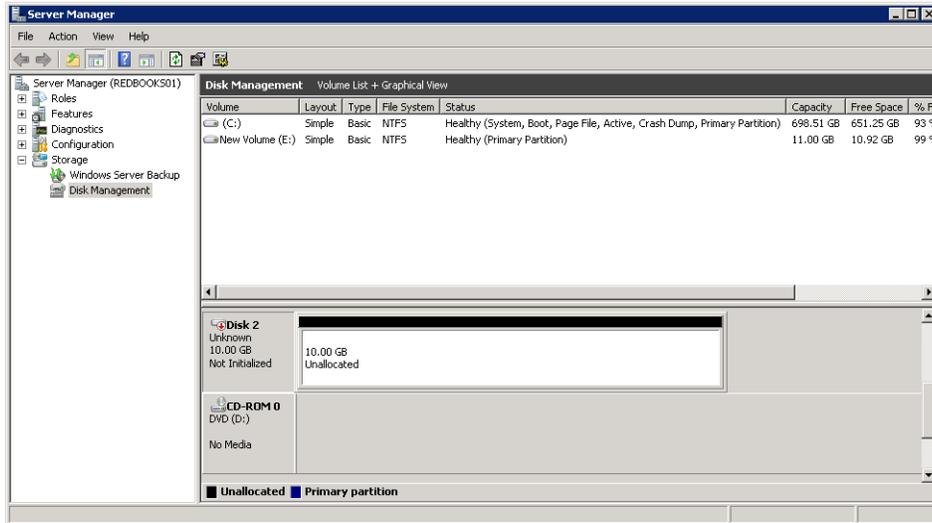

Figure 4-26 Configuring disks in online state
1. Open the Windows Disk Manager to make the volumes available for data. Initially, the new disks are presented in offline/unknown state, as shown in Figure 4-26.